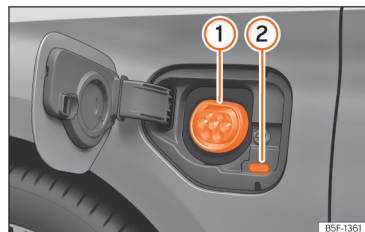

Fig. 59 Behind the battery charging cover on the front left-hand side: Charging socket
>>> Fig. 59
- With the vehicle unlocked, the battery charging cover opens when it is pressed >>> **Fig. 59.**